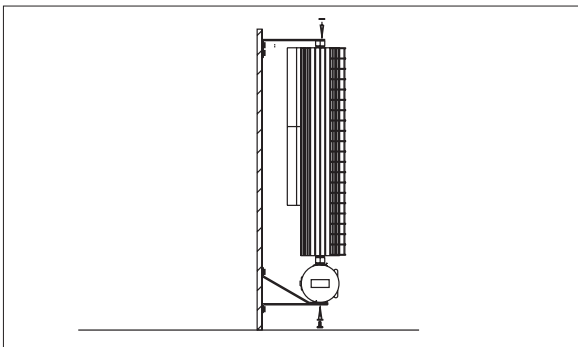
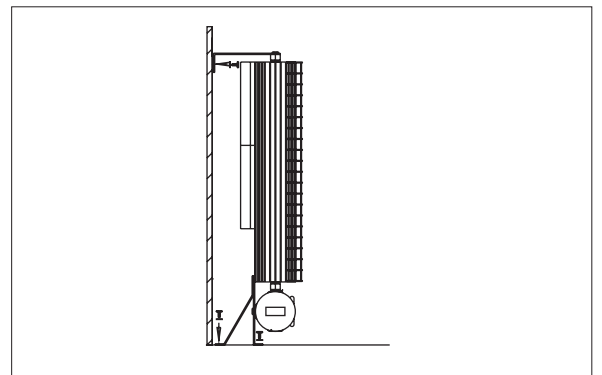

Figure 5 – Attach heater to mounting brackets
Figure 8 – Attach heater to floor and wall
**Step 3:** Secure bottom of heater to wall mounting brackets with supplied 1/4"-20 hex bolts and lock washers (Figure 5).
**Step 3:** Lift top of unit and position heater vertically against the wall. Secure stabilizing and floor mounting brackets to the mounting surfaces (Figure 8).
To ensure safe operation, heater must be installed, as shown in Figure 5 and Figure 8. Installation with fins in the incorrect orientation may result in an unsafe condition (refer to Table 1, page 4).